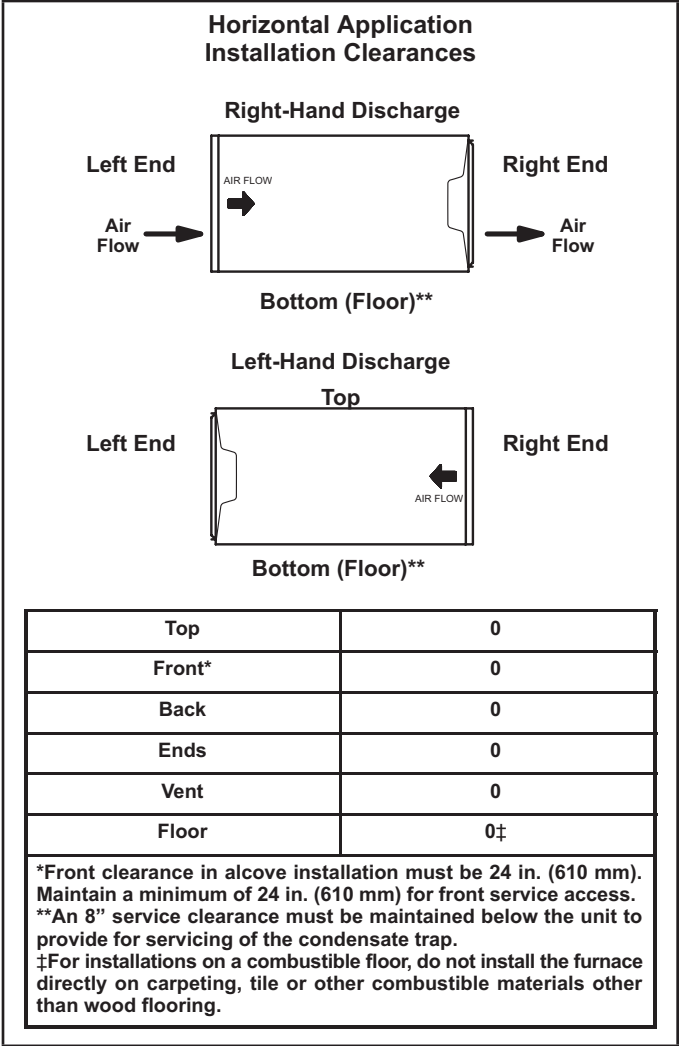

FIGURE 17
The ML296UHVK furnace can be installed in horizontal applications with either right- or left-hand air discharge. Refer to FIGURE 17 for clearances in horizontal applications.
- 1 - Select location for unit keeping in mind service and other necessary clearances. See FIGURE 17.